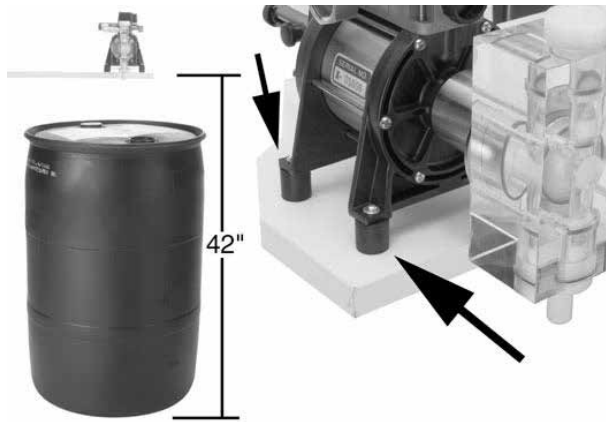

Figure 1
1. Mount the proportioner on a bracket or using the four rubber feet provided with the machine (Figure 1). Do not tighten the rubber feet excessively. The rubber feet should be just snug. Over-tightening rubber feet will cause the end plates to crack.